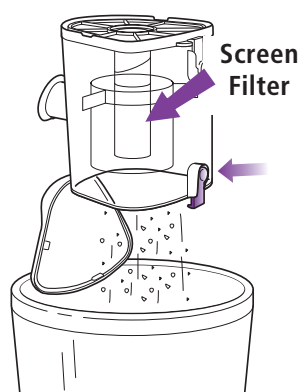

Fig. 21
- 3 If needed, turn the dust cup upside down over the trash receptacle and press the top door release button. **(Fig. 21)** Tap gently to remove contents. Use a dry cloth or paper towel to remove debris stuck to the screen filter inside the dust cup. Press the door shut again until it clicks.